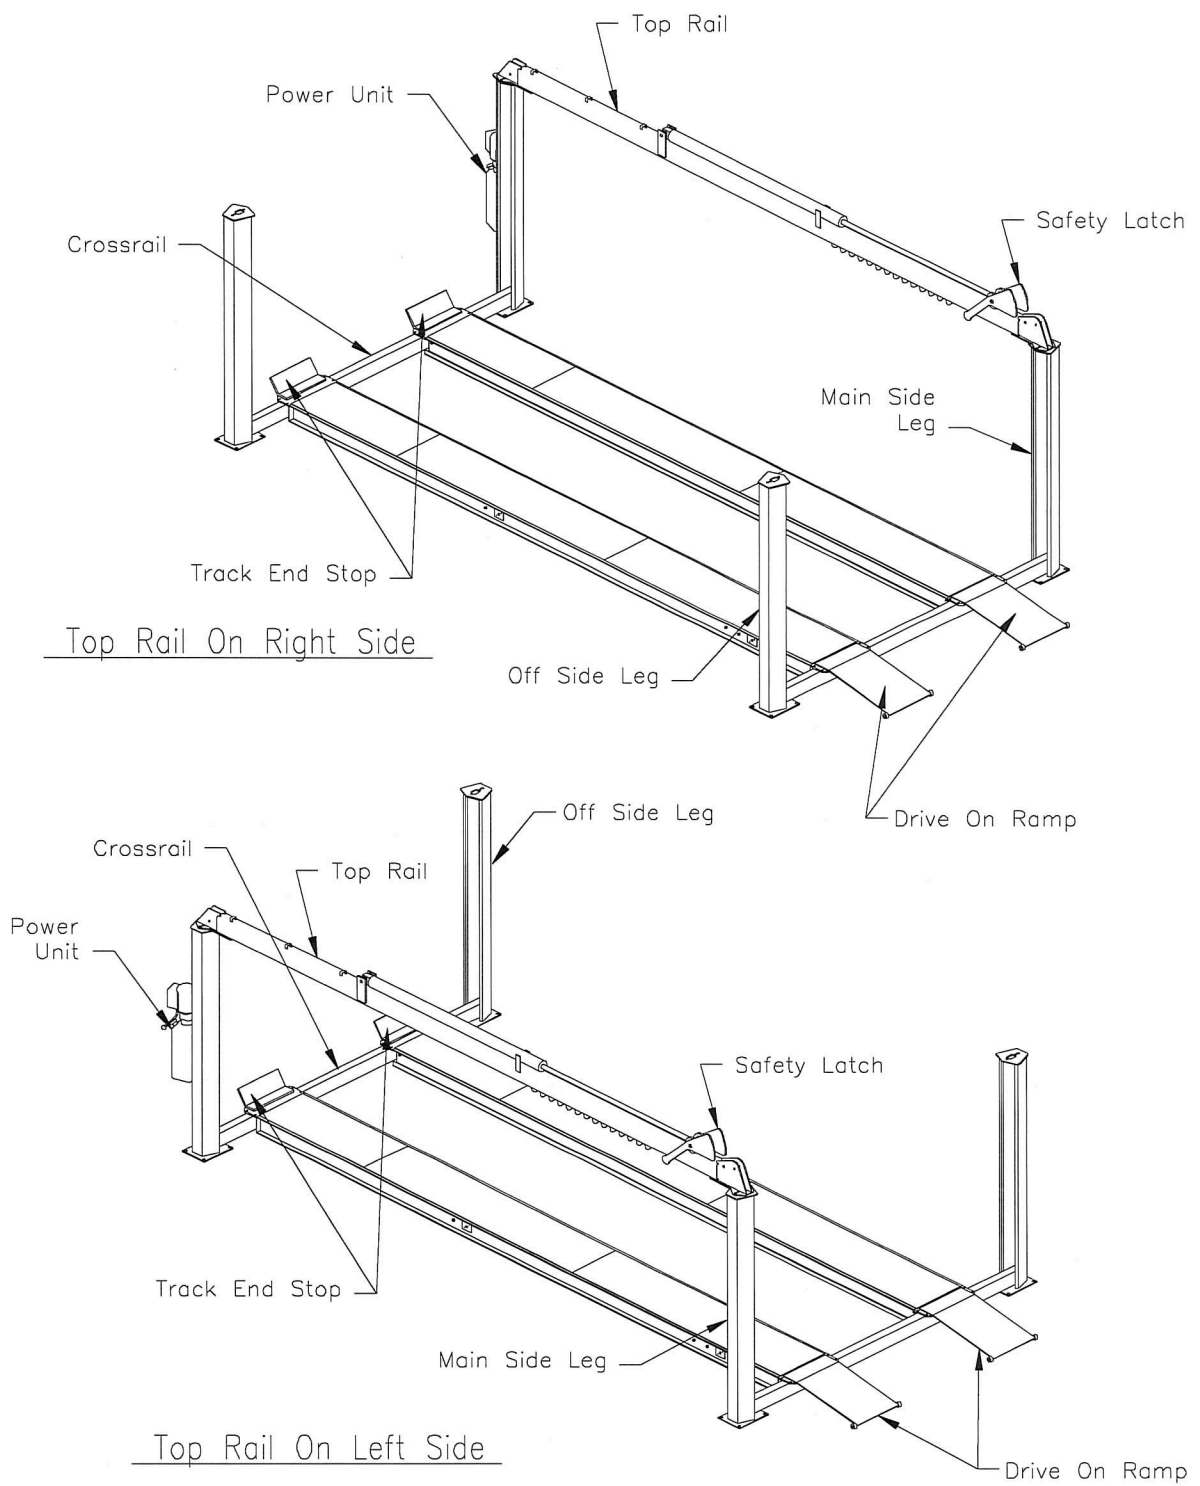
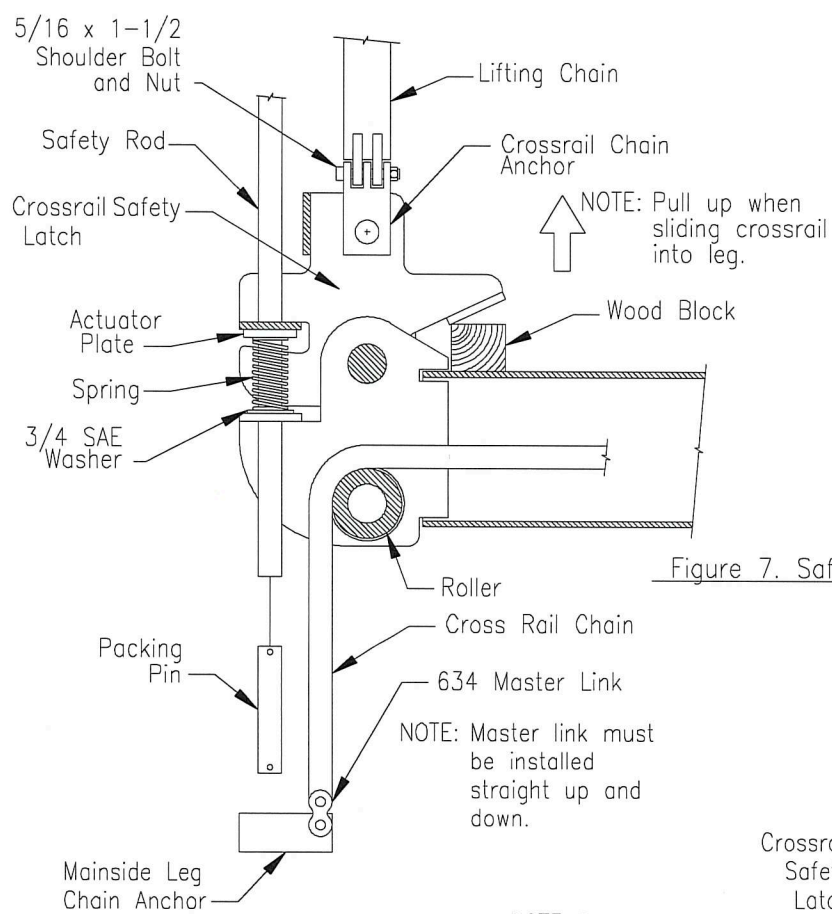

Figure 1. General Arrangement
Figure 7. Safety Rod Installation, Mainside
1. The floor in which this lift is to be installed must be four (4) inch minimum thickness concrete, with a minimum compressive strength of 3000 PSI, and reinforced with steel mesh or bar per commercial practice. Pads must be two (2) feet by two (2) feet by one (1) foot thick, reinforced with steel per commercial practice.
6. Refer to Figure 1, General Arrangement. The lift is to be installed with the toprail on the passenger side as shown. The standard mounting positions for the power unit is also shown. If it is necessary to mount the power unit in another position, the installer must reroute the hydraulic lines to the pump. The installer must use 3/8 diameter hydraulic hose or stainless steel tubing with a rated working pressure of 2500 PSI and a recommended rated burst pressure of 6000 PSI. The routing of the hydraulic lines should clear the safety latch mechanism of the toprail.
| Figure 1, General Arrangement.....               | Page 5  |
| Figure 7, Safety Rod Installation, Mainside..... | Page 13 |
2. Refer to Figure 1, General Arrangement. For muffler work it is satisfactory to erect the lift with the top rail on the left or driver's side. For alignment and work that requires access to the front seat of the car, the top rail can be positioned on the right or passenger's side so that it is out of the way.
11. Position the cross rails in their appropriate locations as shown in Figure 1. The lifting chain connector must be at the mainside leg location. See Figure 7.
13. Check the chain anchor in the base of the mainside leg. If it is a narrow anchor with one slot, attach the cross rail chain to the mainside chain anchor with a 634 chain master link. See Figure 7. If it is a wide anchor with two slots, insert the four link end of the chain into the slots and secure with the  $\frac{5}{16}$  x  $1\text{-}\frac{1}{4}$ " shoulder bolt and  $\frac{1}{4}$  NC nut. Repeat for the other cross rail.
14. Position a 2 x 4 block under the safety latch on the mainside end of the cross rail as shown in Figure 7. Install a  $\frac{3}{4}$  nut on the safety rod and turn it down to the end of its threads. Remove the nail from the top end of the packing pin in the cross rail. Push the pin down and out using the safety rod, leaving the safety rod in the latch mechanism. While pulling up on the safety latch as shown in Figure 7, and while a helper pulls on the other end of the cross rail chain, insert the top end of the safety rod into the rear hole at the top of the mainside leg. Secure the top of the safety rod with a  $\frac{3}{4}$  nut. The top  $\frac{3}{4}$  nut should be flush with the end of the safety rod and the bottom nut should be tightened against the leg top. Remove the wooden block. Repeat for the other cross rail.
22. Attach the lifting chains to each cross rail chain connector using a 5/16 x 1-1/2" Grade 8 shoulder bolt and nut. See Figure 7.